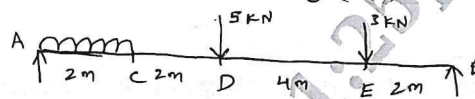

Fig.Q5(c)
- c. Draw SFD and BMD for a beam as shown in the Fig.Q5(c).